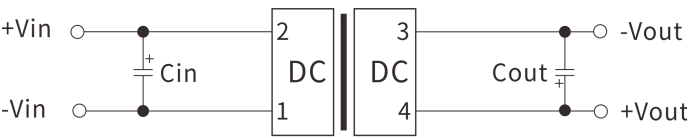

Figure 1
If it is required to further reduce the input and output ripple, a capacitor filter network can be connected to the input and output ends, and the application circuit is shown in Figure 1.
2. One recommended circuit: For applications where ripple and noise requirements are normal, a filter capacitor can be connected in parallel at the input and output ends. The external circuit is shown in the following figure1 with the recommended value details of the filter capacitor. Output load requirements: Try to avoid no-load use. When the actual power consumption of the load is less than 10% of the rated output power of the module or there is no-load phenomenon, it is recommended that a dummy load be connected to the output end. The dummy load (resistance) can be calculated by  $5\sim 10\%$  of the rated power of the module, resistance value =  $U_{out} / (1W * 10\%)$ .